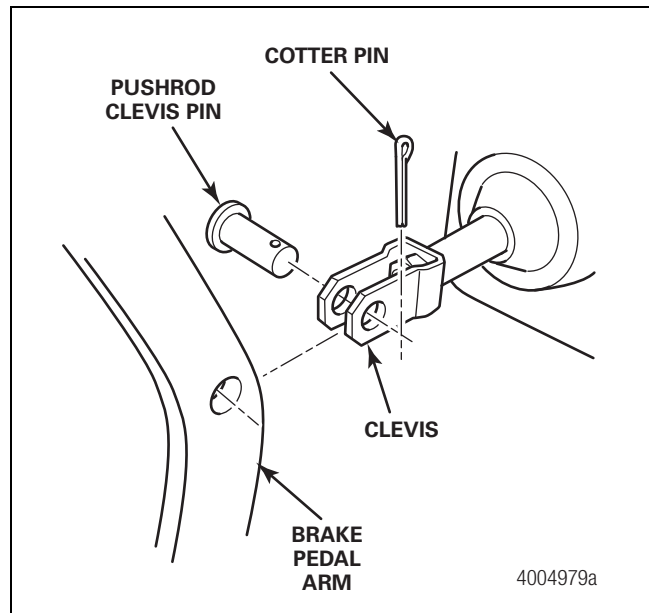

Figure 4.40
13. Disconnect the master cylinder pushrod clevis pin from the brake pedal. Figure 4.40.